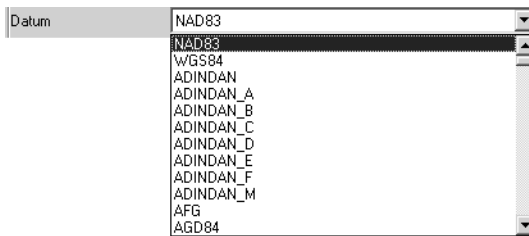

Figure 3-19. Datum List
- Or a Datum for Lat,Lon,H coordinate type (Figure 3-19).